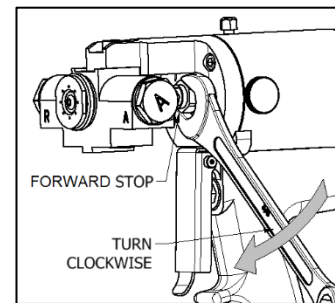

Figure 9: Turn Forward Stop Clockwise
12. Turn the **Forward Stop** clockwise (as viewed from the front of the gun) approximately 1-2 turns (see Figure 9)